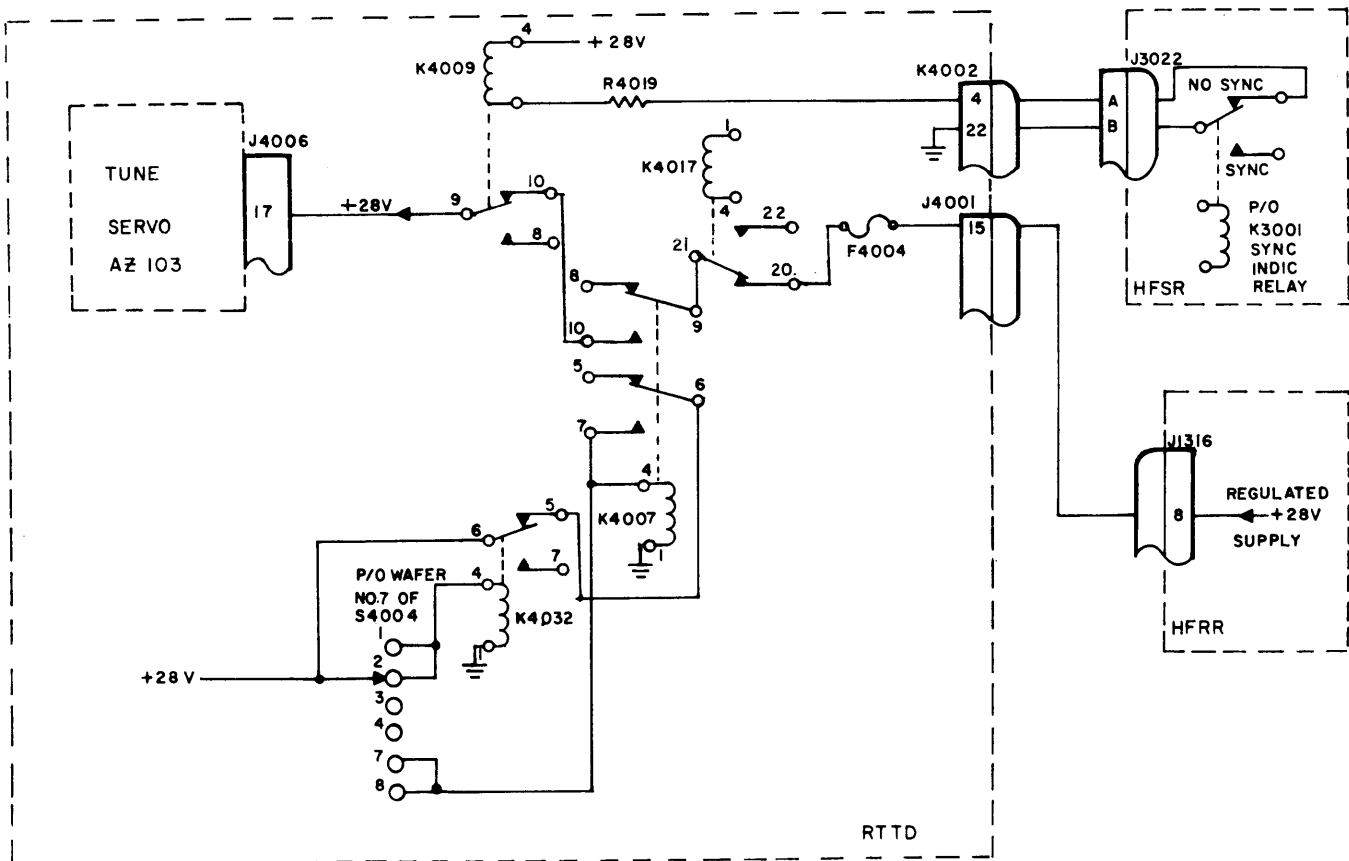

Figure 4-8. Operate Path of Tune Servo AZ103, Simplified Schematic
**h. SERVO TUNING ACTION.** - There are three distinct stages of servo tuning action: (1) TUNE servo AZ103 of the RTTD is disabled until the BAND switch of Continuous RF Tuner HFRR is properly positioned; (2) motor B1002 of the HFRR is energized and the BAND switch is positioned in accordance with tuning information received; (3) TUNE servo AZ103 is then energized and frequency search takes place.
**(1) DISABLING TUNE SERVO AZ103** (Refer to figure 4-8). - As the wiper of Master Decoder switch S4004 in Receiver Decoder RTTD makes connection with contacts 1 and 2, relay K4032 of the RTTD energizes and disconnects +28vdc from contact 6 of relay K4007 thus opening the locking path of K4007. (This is in the event that K4007 is still energized from a previous tuning sequence). De-energized relay K4007 opens contacts 9 and 10 and removes regulated +28vdc supplied from Continuous RF Tuner HFRR.
**(3) ENERGIZING TUNE SERVO OF RTTD** (Refer to Figures 4-8 and 4-10). - As the wiper of Mas-